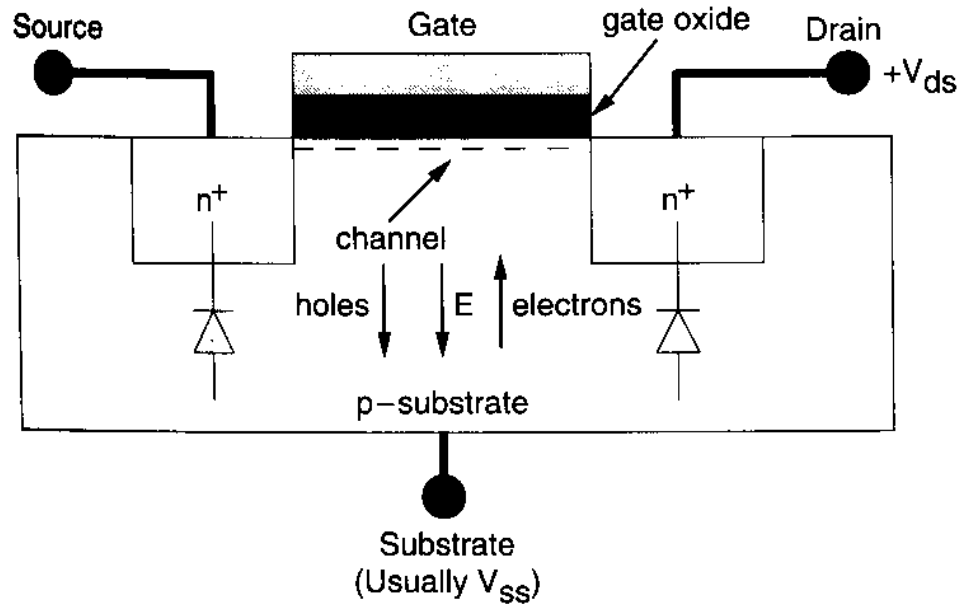

FIGURE 2.3 Physical structure of an nMOS transistor
- Structure of an n-channel enhancement-type transistor. (Figure 2.3)
- With zero gate bias, i.e. $V_{gs} = 0$, $I_{ds} = 0$ because the source and the drain are effectively insulated from each other by the two reversed-bias pn junctions (indicated as the diode symbol in Figure 2.3).